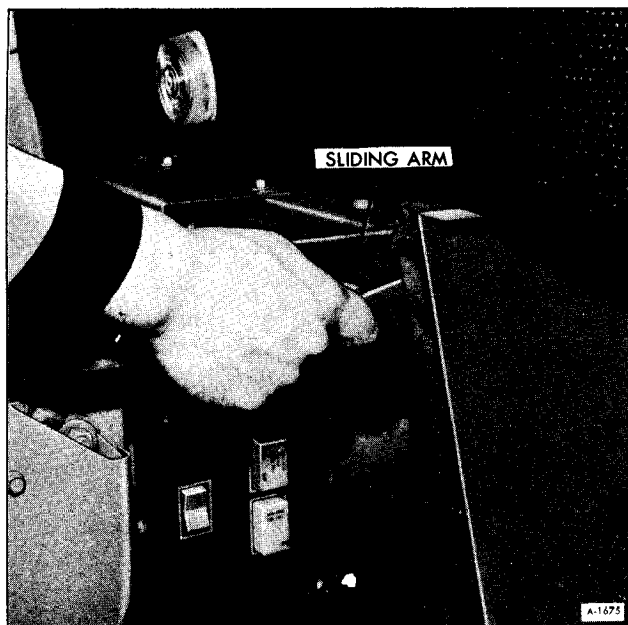
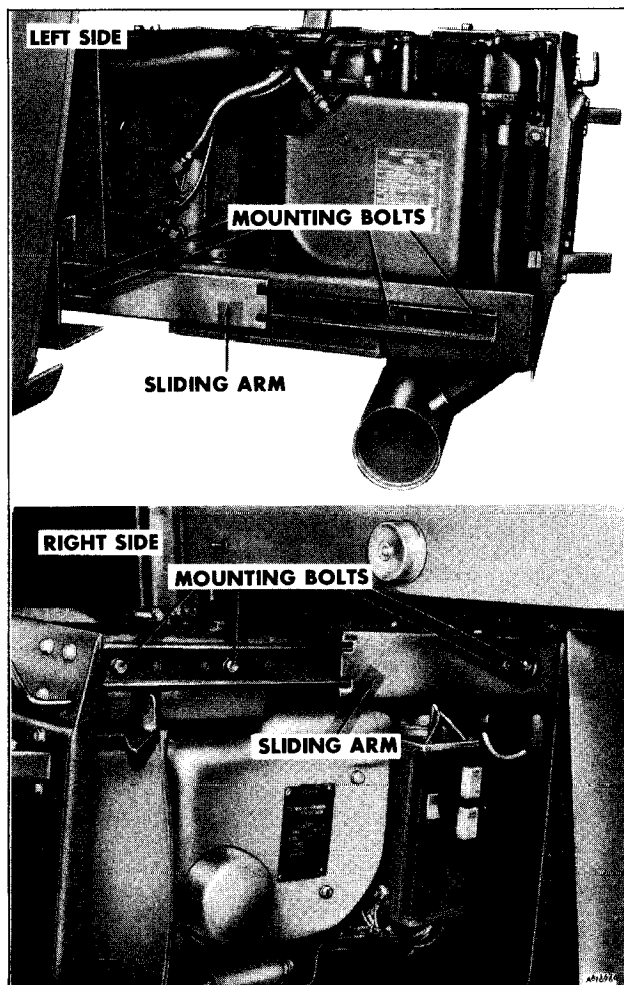

Figure 3—Disconnecting Sliding Arm (6KW)
Figure 4—Disconnecting Sliding Arms (4KW)
6. Remove bolts from both sliding arms (figures 3 and 4).
**NOTE:** The bolts on the 4KW motor generator are readily accessible, as shown in Figure 4, whereas the mounting of the 6KW unit requires one of the bolts to be removed as shown in Figure 3.
4. Install mounting bolts in slide rails as shown in Figures 3 and 4.